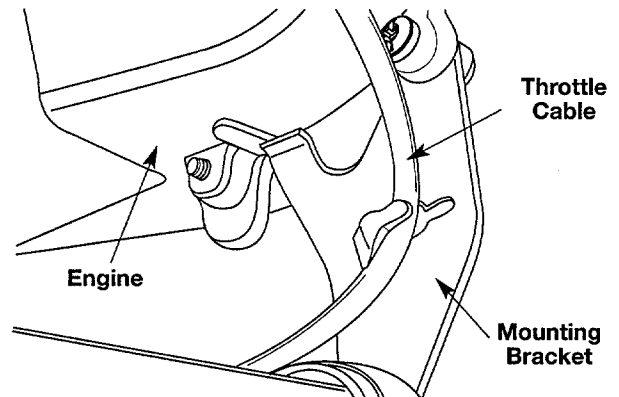

Figure 13
6. Route the throttle cable through the clip on the right handlebar mounting bracket. See Figure 13.